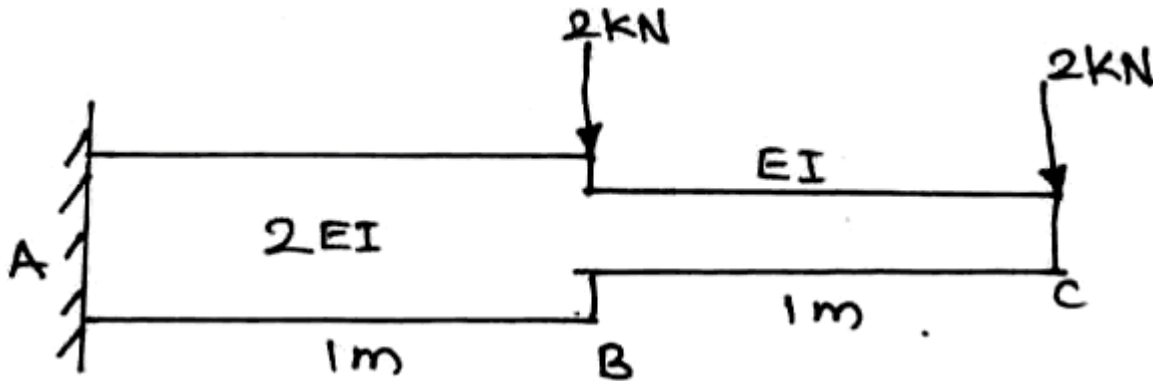

Fig.3
3. For the cantilever beam shown in Fig.3. Find the deflection and slope at the free end.  $EI = 10000 \text{ kN/m}^2$ .